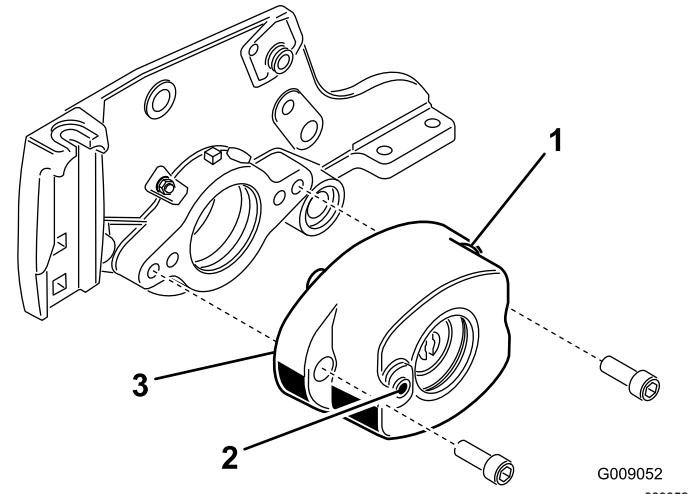

Figure 6
5. Mount the roller-brush housing to the reel-bearing housing with 2 Allen-head bolts (3/8 x 1 inch) (Figure 6). Position the roller-brush housing so that the threaded hole is toward the front of the cutting unit.